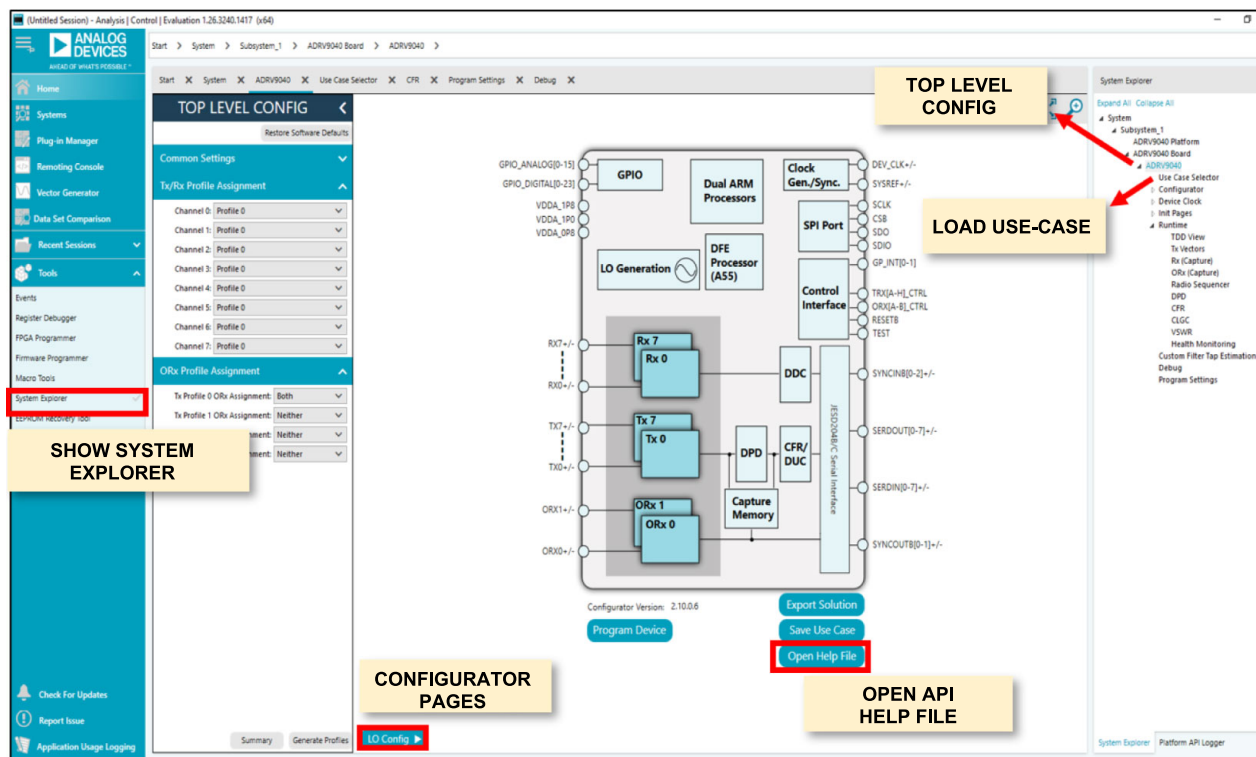
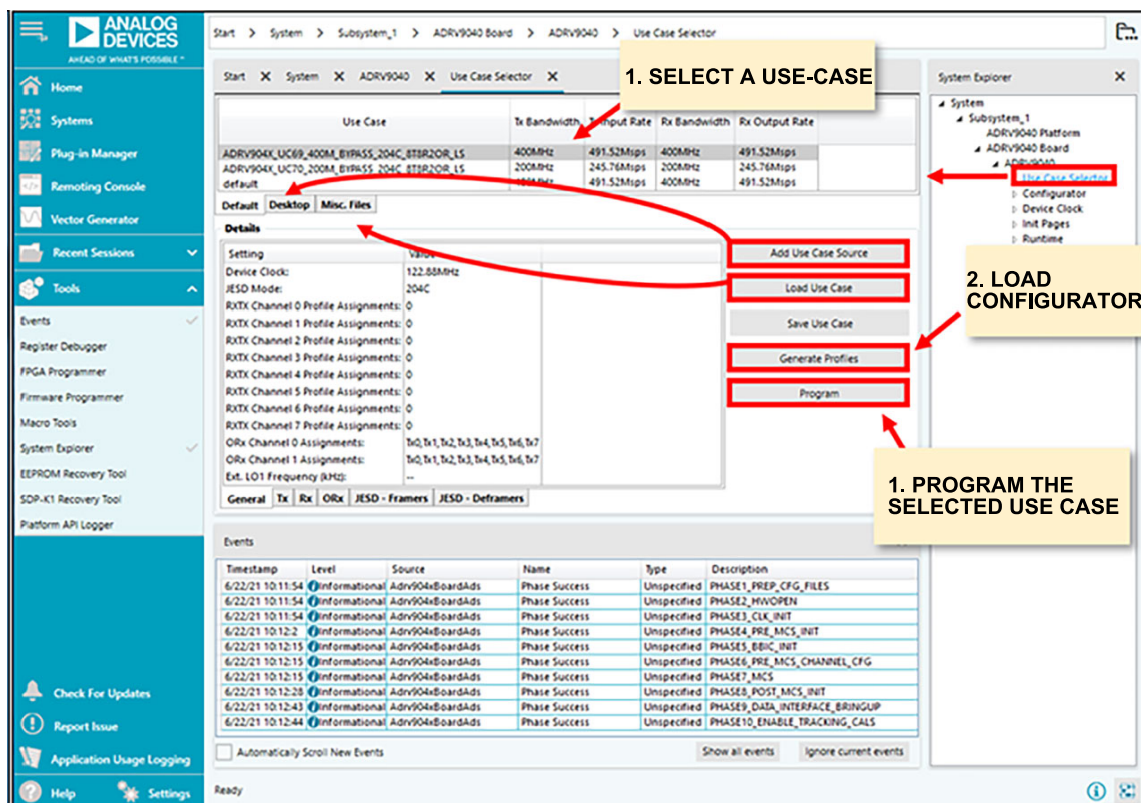

Figure 10. Launching the ADRV904x Plugin Opens the ADRV904x Configurator Top Level Config Page
Figure 11. Loading a Predefined Use Case from Use Case Selector Page
- ▶ **Top Level Config** (see Figure 10): maps various **Tx/Rx Profile Assignment** and **ORx Profile Assignment** channels to profiles, export the current state of the configurator as a JSON use case, view the device **Open Help File**, and access the **Configurator** pages.
- ▶ Subsequent **Configurator** pages can be used to configure the local oscillator (LO), carrier digital up conversion (DUC), transmitter, carrier digital down conversion (DDC), receiver, observation receiver, and JESD settings to arrive at and validate a desired ADRV904x use case.
- ▶ **Use Case Selector**: if running the selected use case default settings, refer to Figure 11. If running a modified use case, use a ADRV904x configurator at the top level as shown in Figure 11.
- ▶ Track the ADRV904x device programming phases through the ACE **Events** window, as shown in Figure 11.
1. Select the desired use case from **Use Case Selector** as shown in Figure 11.
Once the **Configurator** pages are loaded by generating profiles, the user must then modify the selected use case default settings as shown in Figure 11. Such a modified use case must be programmed from the ADRV9040 **Top Level Config** page as previously shown in the ADRV904x Plugin Overview section. The modified use case can also be exported as a .json file from the ADRV9040 **Top Level Config** page.